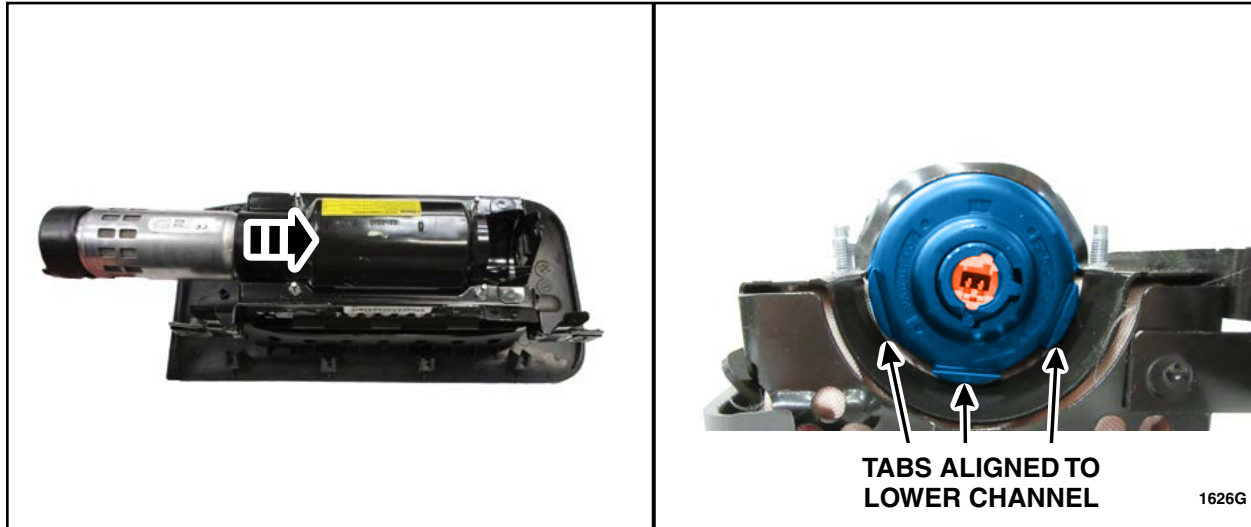

FIGURE 9
9. Install the inflator into the passenger airbag assembly with the orange connector end facing out. Align the three tabs on the cap nearest the inflator retaining bracket with the airbag module lower channel (facing down). See Figure 9.